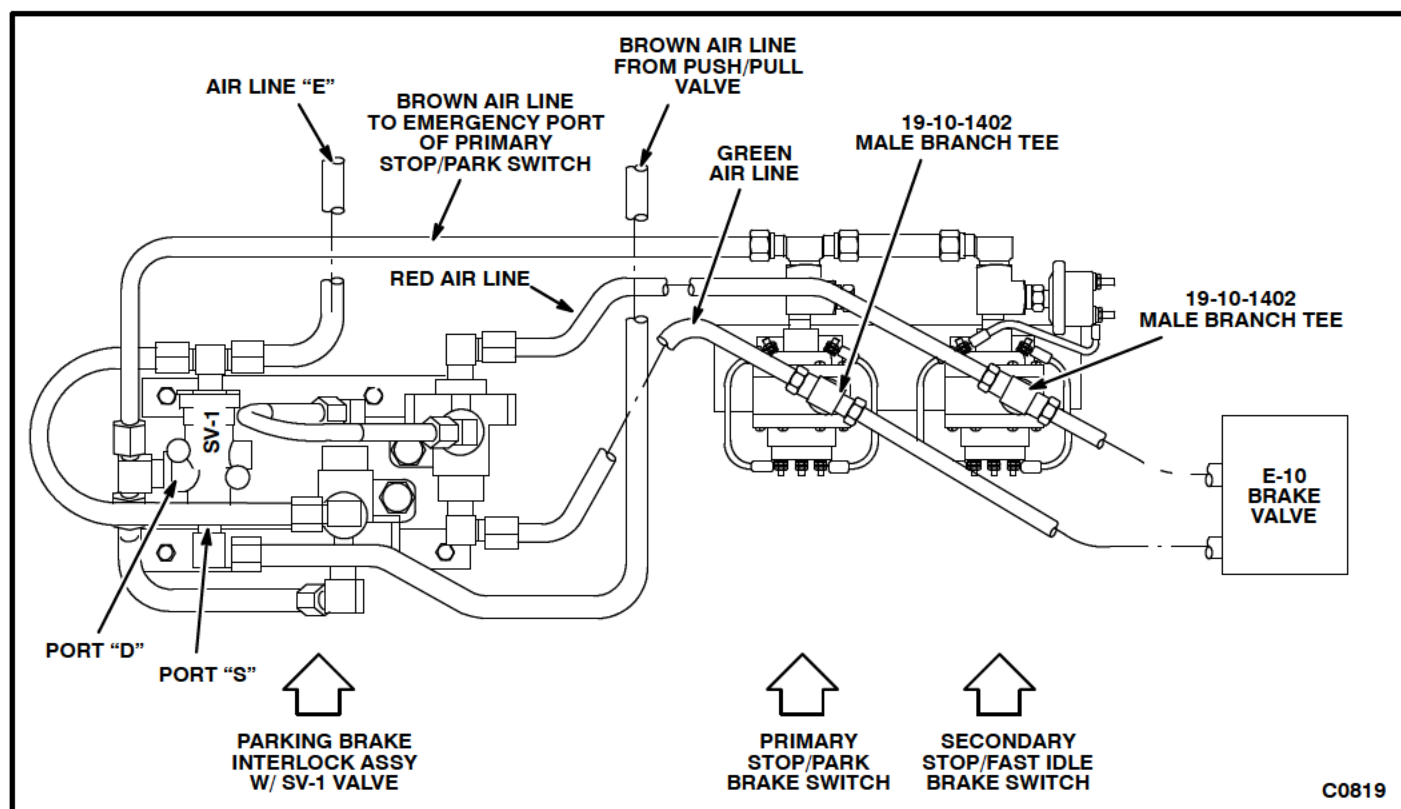
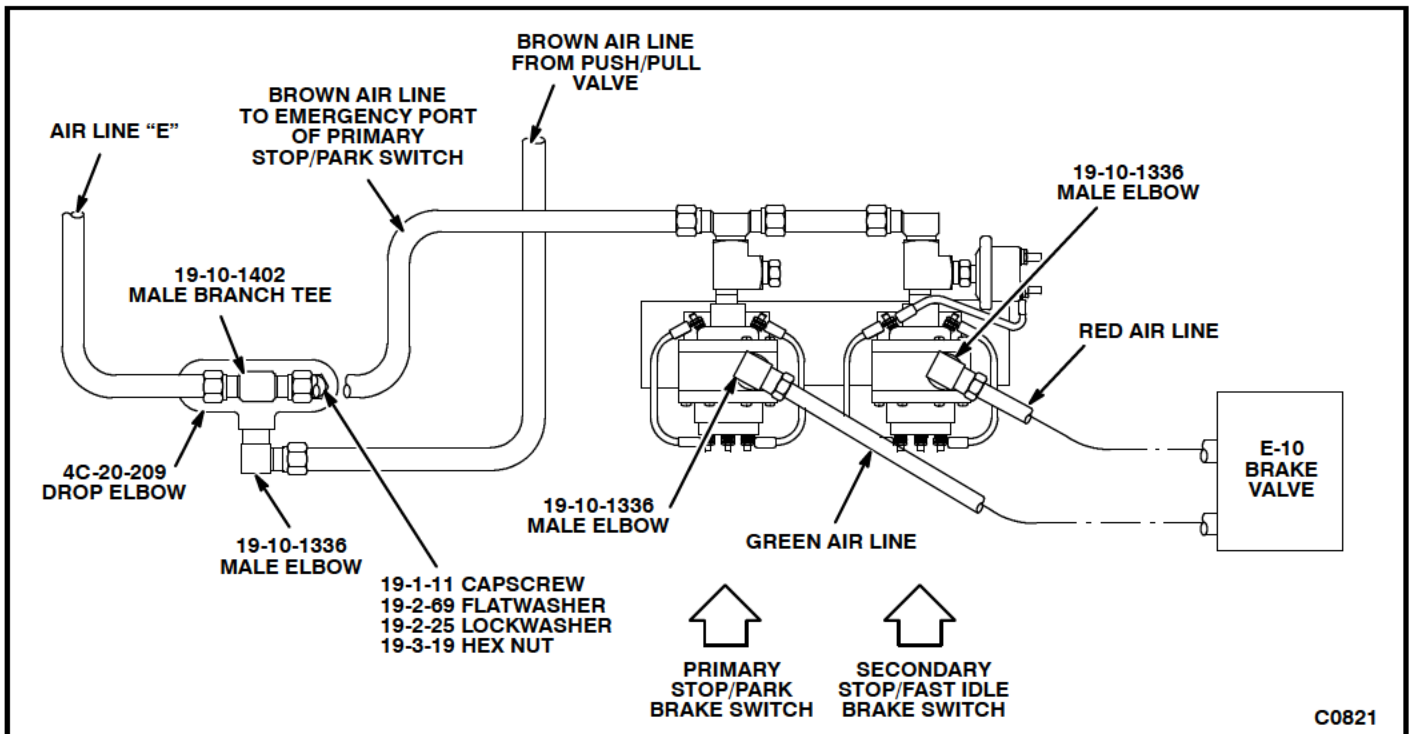

Figure 1. Brake System With E-10 Brake Valve and Parking Brake Interlock.
Figure 3. Brake System With E-10 Brake Valve and Without Parking Brake Interlock.
3. a) On coaches having an E-10 brake valve, disconnect the air lines to the 19-10-1402 male branch tees on the primary stop/park switch assembly and the secondary stop/fast idle switch assembly (see Figure 1). Replace the tees with 19-10-1336 male elbows (see Figure 3). Reconnect the red and green airlines running between the switches and the E-10 brake valve (see Figure 3).
9. Install the 4C-20-209 drop elbow with the added fittings in the same approximate location that was occupied by the interlock assembly, making sure it is located such that all of the brown airlines can be easily connected to it. Install the drop elbow with its end port and the 19-10-1336 elbow downward. Use the capscrews, nuts and washers from the kit to install the drop elbow as shown in Figures 3 & 4.